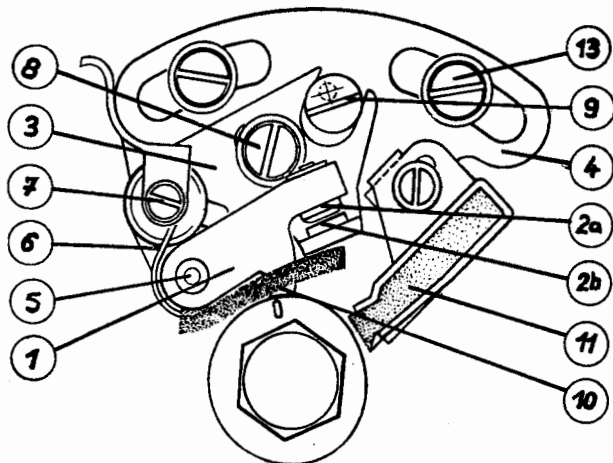

Fig. 144. Contact breaker
The design of the contact breaker is shown in Fig. 144. The adjusting plate (4) is used as a carrier of the plate (3) and of the felt lubrication pad (11) and for adjusting the firing point (through oblong holes). The bearing pin (5) where the lever (1) is pivoted is mounted on the plate (3) with fixed contact (2 b). The contact (2 a) rivetted to the right end of the lever (1) is pressed against the fixed contact (2 b) by the return spring (6) which also serves as current conductor and one end of which is supported by the connecting screw (7). The contact-breaker-points gap can be finely adjusted by the eccentric screw (9) after loosening the fastening screw (8). The felt lubrication pad (11) which is slightly soaked with Hypoid oil should be approached to the cam just far enough for the lobe of the cam to be touched.
Before starting ignition timing operations, it is necessary to inspect the contact-breaker points thoroughly (see Fig. 144).
To adjust the contact breaker points gap of 0.3 ± 0.1 mm, turn the crankshaft until the high-level portion of the cam contacts the contact lever nose (10) (see Fig. 144).
If the contacts open at an instant different from the specified time, the two screws (denoted 13 in Fig. 144) must be loosened and the adjusting plate (4) moved in the direction of the sense of rotation of the engine in the event of advanced opening of the contacts or against the sense of rotation of the engine in the event of retarded opening of the contacts.